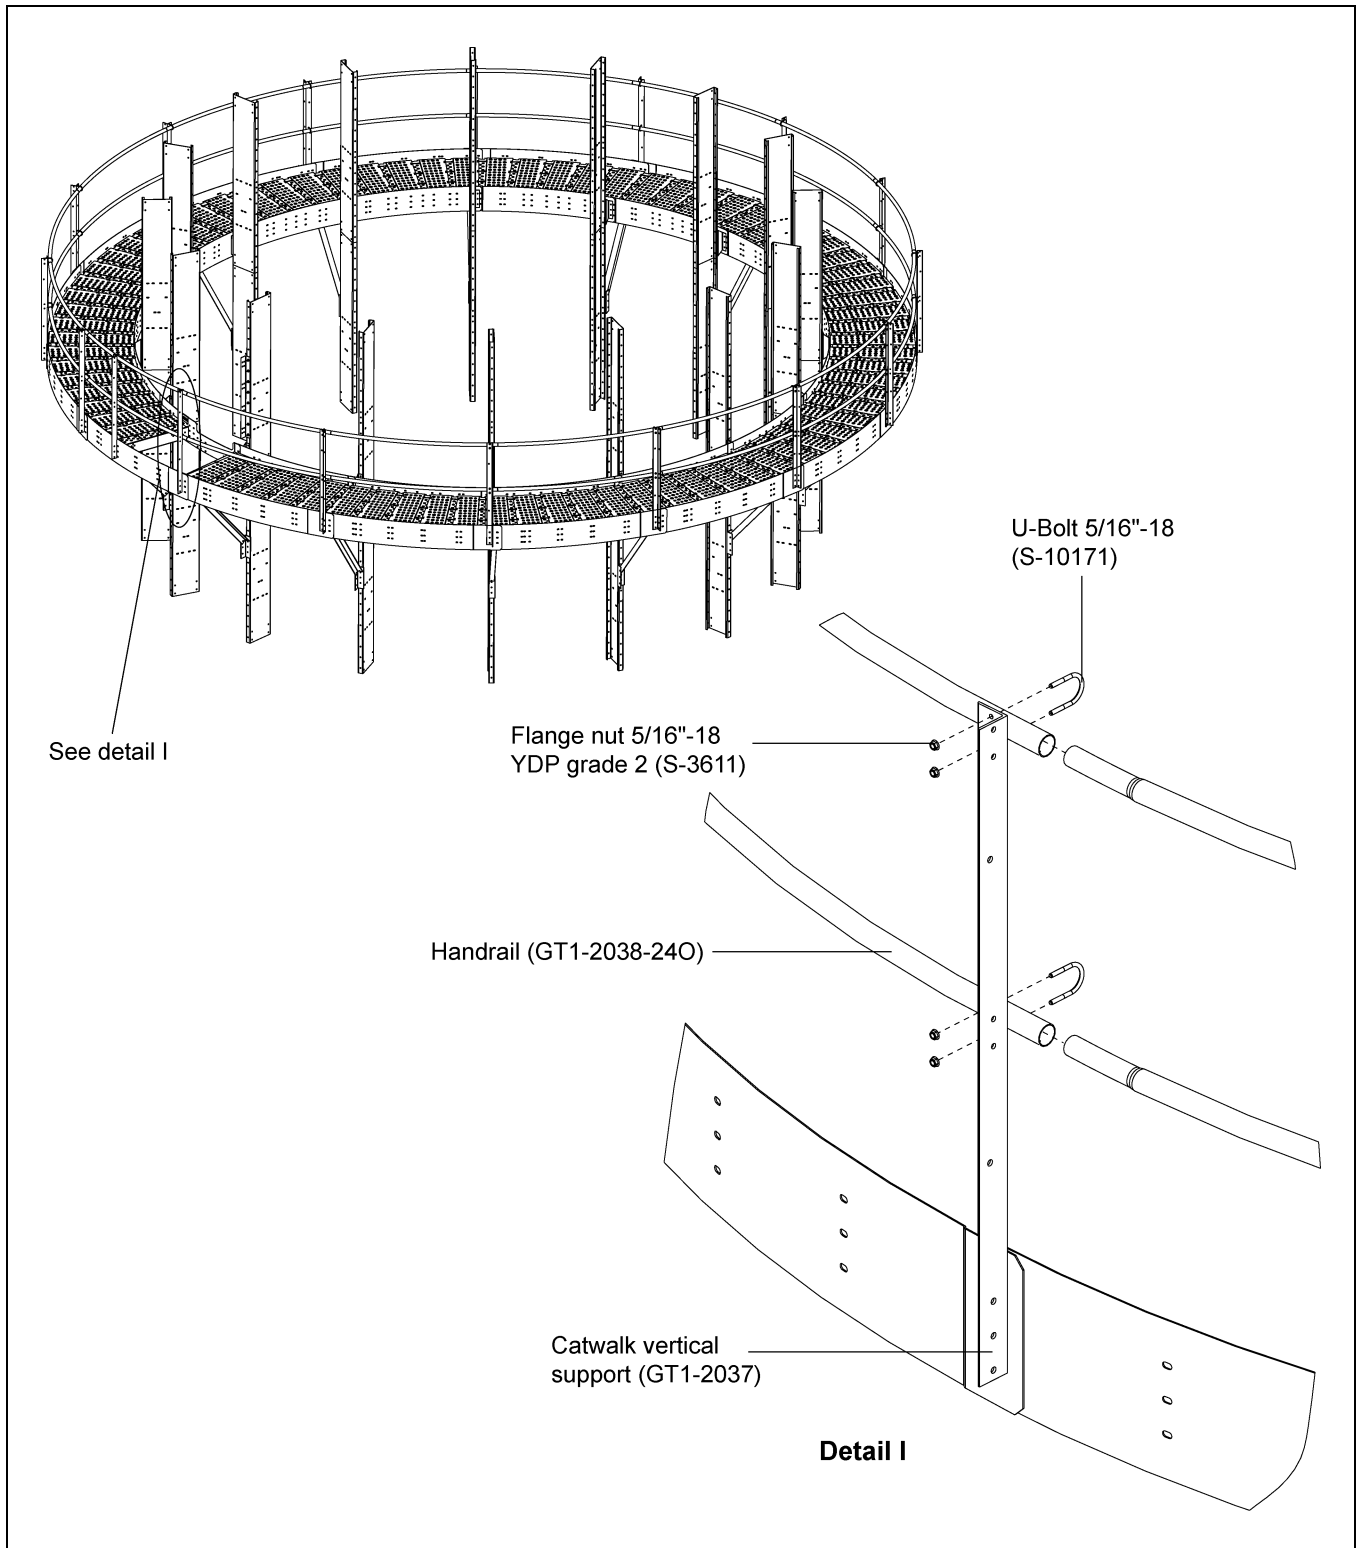

Figure 4T
1. Install the handrail (GT1-2038-240) to the catwalk vertical support (GT1-2037-BS) using 5/16"-18 ZN U-bolts (S-10171) and 5/16"-18 YDP grade 2 nuts (S-3611) to tighten the handrail with vertical post. (See Figure 4T.) (See Page 22.)